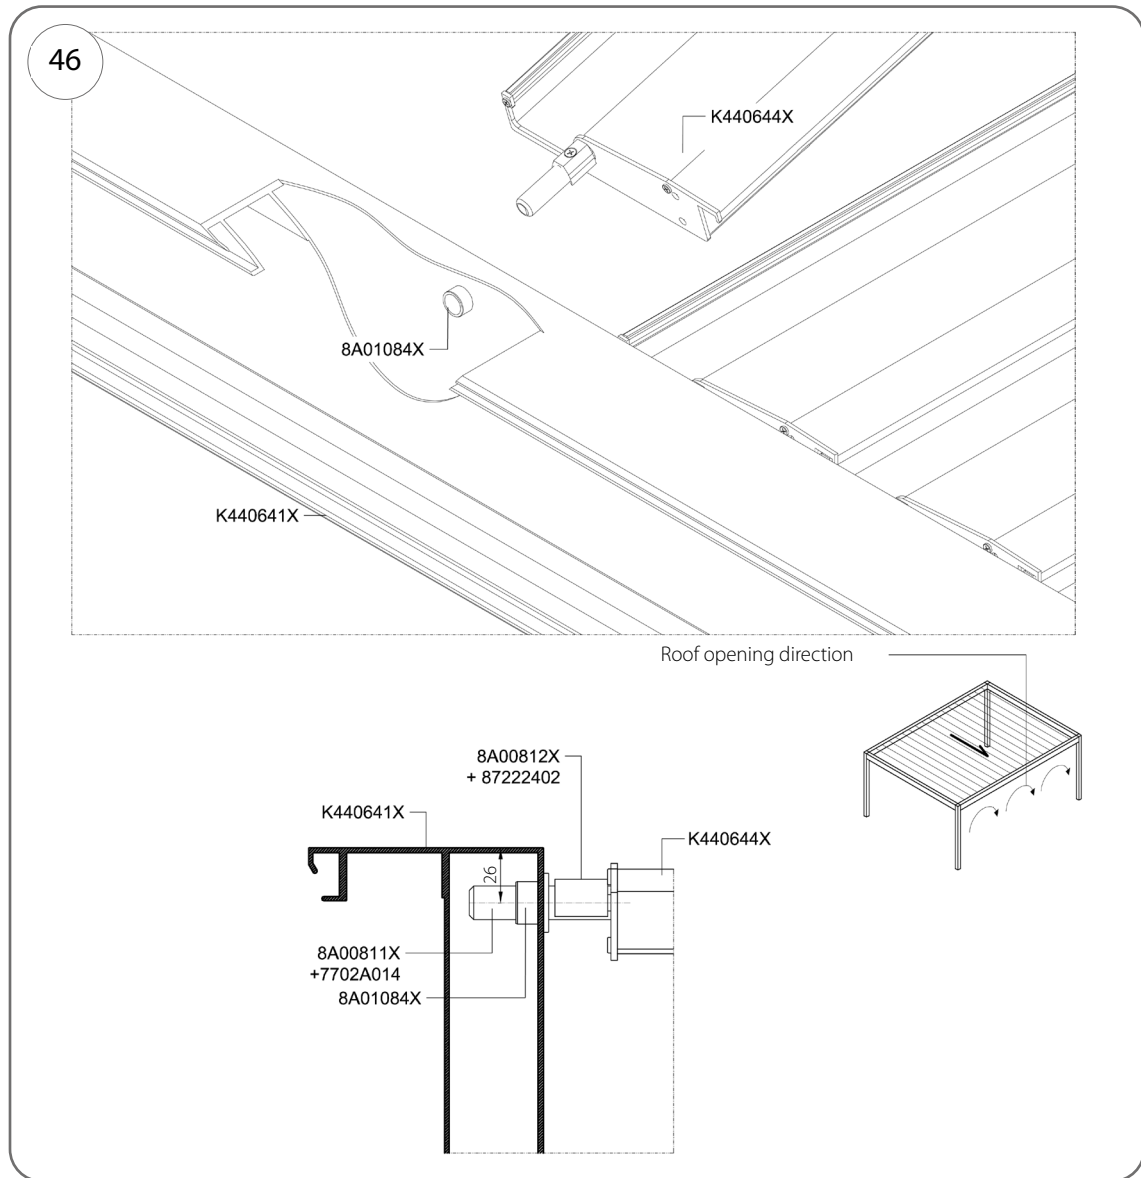

Fig. 46
1. Insert the louver axle at an angle into the sleeve 8A01084X (Fig. 46).